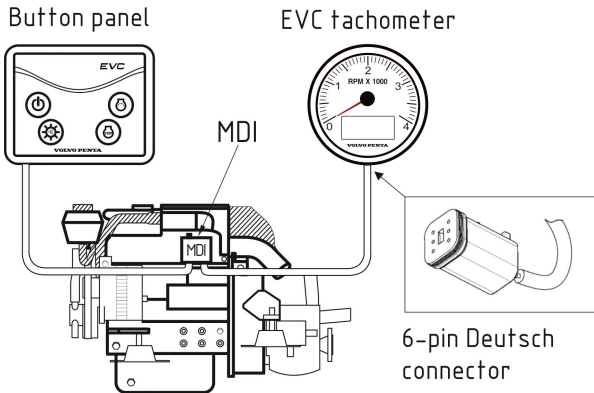

Figure 2. Volvo Penta engine with MDI and EVC tachometer
- If the system has an EVC tachometer (with a needle gauge and a small LCD display) connected by a 6-pin Deutsch connector (see Fig. 2 on the next page), the best option is to connect the Gateway in-line with a tachometer (no extra cables are required, the Gateway is equipped with a 6-pin Y-connector);